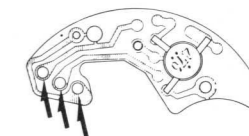

Fig. 4-17
- 2) Clean the pattern of the circuit block (arrow portion in Fig. 4.17)